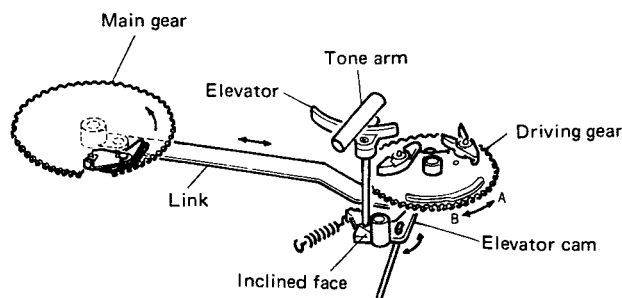
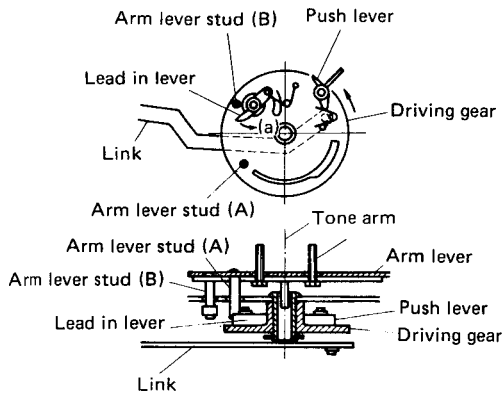

Fig. 6
Fig. 7
When the starting cycle begins and the main gear rotates, the driving gear is turned reciprocally by the link to reciprocate the elevator cam, as shown in Fig.6.
In Fig. 7, the lead-in lever is moved in the direction (a) by the counterclockwise rotation (b) of the driving gear, as shown in Fig. 6. As a result, the lead-in lever passes the arm lever stud (A) without touching it. Therefore, the arm lever does not move. During the next process shown in Fig. 8, the lead-in lever strikes against the reset plate and is pushed back in the direction (a). When the driving gear returns in the clockwise direction (B), this time the lead-in lever pushes the arm lever stud (B), and the arm lever stud is moved in the direction of the arrow, as shown in Fig. 9. This finishes the final stage of the lead-in operation.